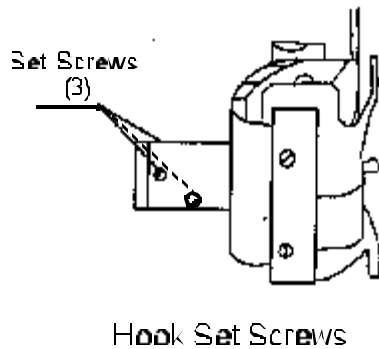

Figure 6
34. **Using** a needle screwdriver, **loosen** two set screws **furthest** from hook point leaving the set screw closest to hook point tight. (If Hook Assembly was removed as instructed in Section B, two set screws are already loose). See Figure 6.